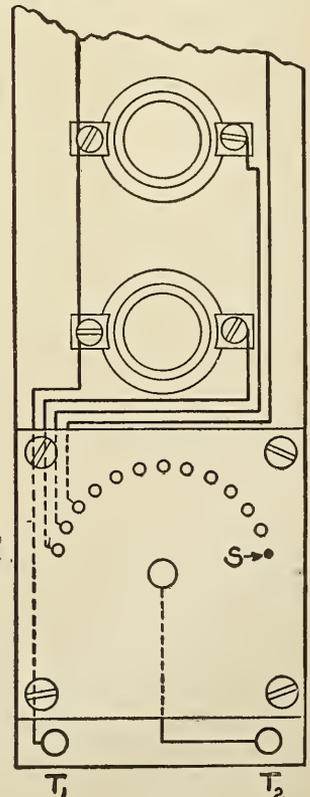

FIG. 70
from some one-inch oak a piece five feet long and six inches wide. Now mount the lamp sockets on one end of this board four inches between centers with all the terminals projecting to the right and left as partly shown in Fig. 70. Connect one side of all these sockets together with a No. 14 copper wire, removing the insulation from the wire only at the points it is fastened under the screws.
wooden base so that its upper surface is on the same level as the top of the screw heads. A stop should be placed in the position marked (S) Fig. 70 to prevent the handle being turned completely around.
Now mount this special switch on four short pedestals under the corners, on the same board you mounted with the lamp sockets, and arrange to make the following connections. Two binding posts (T_1) and (T_2) Fig. 70, can be mounted on the main base that will serve as terminals for the rheostat. Connect one of these binding posts to the lead common to all of the lamps. The other binding post should be connected to the bolt in the center of the switch with a flexible lead. The free terminals of the various lamps should now be connected in regular order to the back end of the screws in the special switch base. When all the lamps are in place you can vary the number